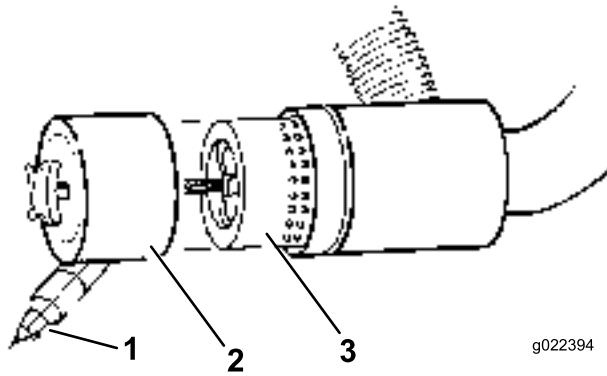

Figure 40
3. Remove and replace the filter (Figure 40). Cleaning of the used element is not recommended due to the possibility of damage to the filter media.